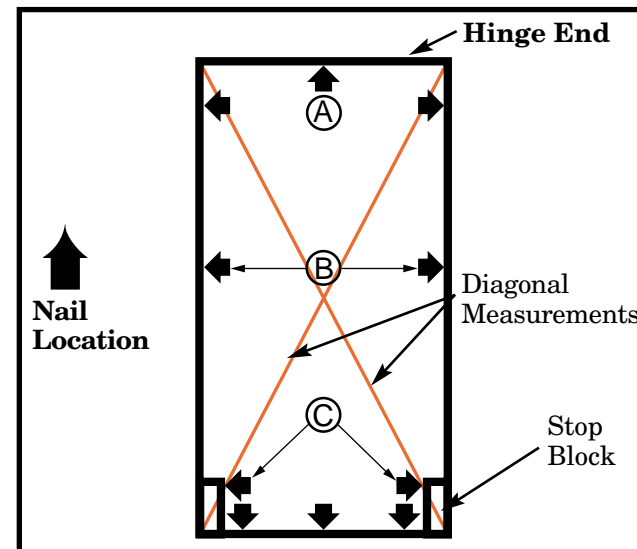

Figure 24
Check the frame for squareness by measuring across the diagonals (See Fig. 24). The two measurements should be within 1/8" to be considered square.
STEP 2. Pre drill all nail locations shown with arrows in Figure 24 using a 1/8" drill bit. Do not drill into the joists or headers. Nail the access ladder to the frame following these instructions.
- a. Drive ten 16d nails, checking squareness and re-shimming as necessary, as shown in Figure 24. Nails at locations marked "B" must go through the hole in each of the metal brackets. Push the ladder up from below until the hole in the bracket is uncovered, then drive the nail through the hole. Locations marked "C" indicate that a nail should be driven through each wooden "stop block".